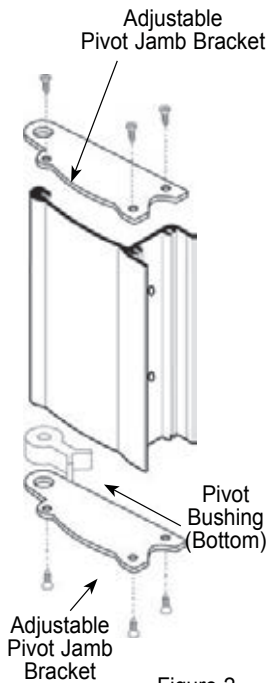

Figure 2
- D. Locate the Pivot Bushing (Bottom) (#14) and press it into the Bottom Adjustable Pivot Jamb Bracket (#2) plate hole (See Figure 2).